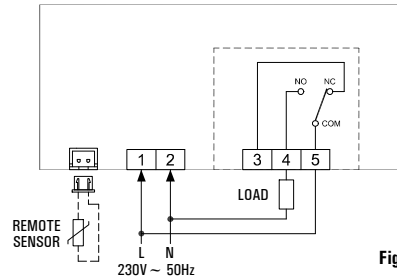

Fig. 5
- 4 Make the electrical wirings following the connection diagrams of Fig. 5 and 6.
The outputs, terminals 3, 4 and 5, are tension-free and insulated with double insulation from the other parts of the thermostat. So, it is possible to power the thermostat with an high tension (230V ~) and, at the same time, control a load at a low tension SEL (24V ~), as can be seen in Fig. 5 and 6.